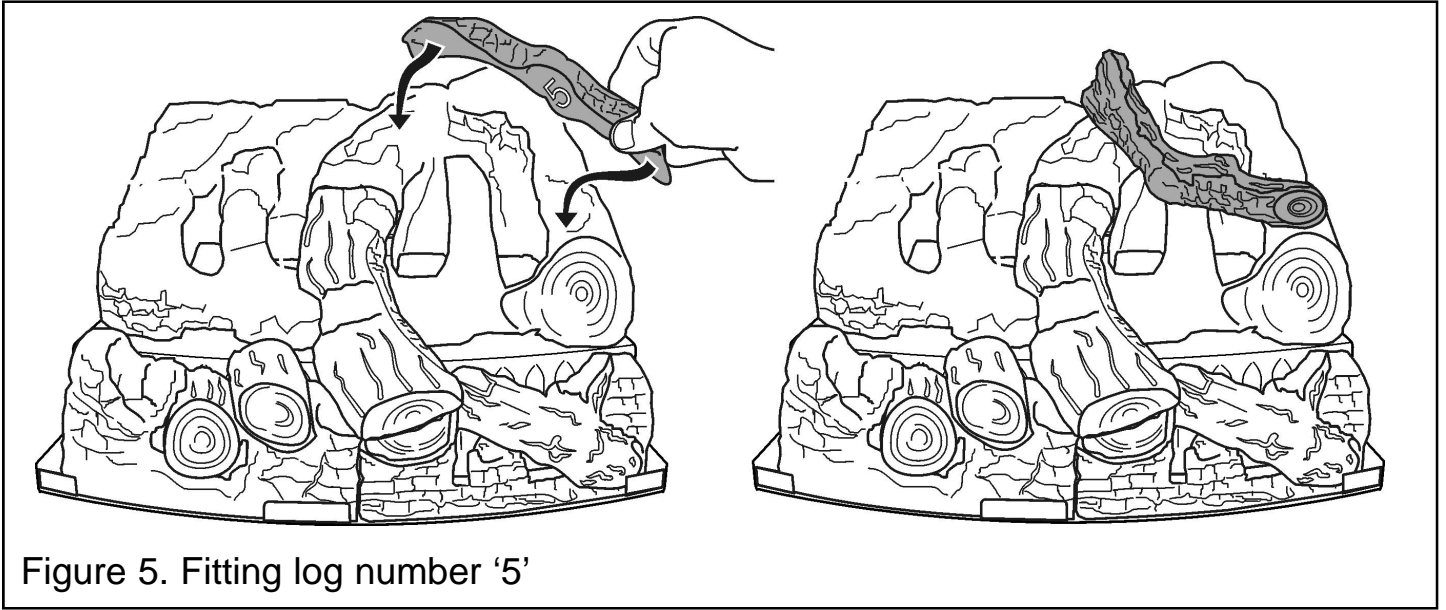

Figure 5. Fitting log number '5'
5. Remove log number '5' from its protective packaging and position it as shown in figure 5.